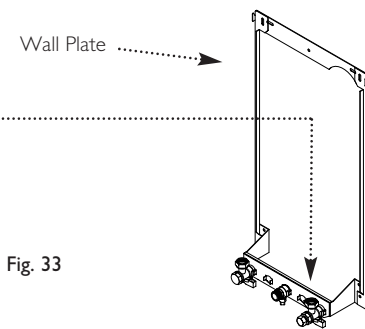

Fig. 33
1. Connect a tube to the central heating flow or return pipe (Fig. 33).